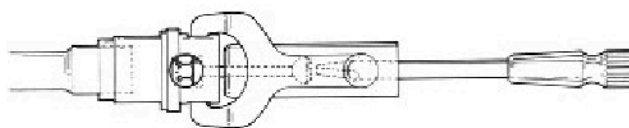

Figure 5
8. While holding the intermediate nut (item 12) with a 7mm open-end wrench, place the disc and retainer wrench (PN 1094-44) over the end of the retainer (item 16). While still holding the intermediate nut with the 7mm wrench, turn the disc and retainer wrench counterclockwise and remove the disc and retainer along with the spring (item 17). Remove and discard the disc (item 15).
9. Place a 5mm Allen wrench into the ribbed plug (item 14) and turn the wrench counterclockwise to remove the plug.
10. Remove the lever support and lever assembly (item 6) from inside the box bottom (item 2). Next, remove and discard the O-ring (item 13).
11. While holding the sheath (item 9) with your fingers, or gently holding it with small pliers, place a 7mm open-end wrench over the intermediate nut (item 12) and turn the 7mm wrench counterclockwise and remove the nut.
12. Insert the Arctic 5.5mm specialty nut driver (PN 1094-48) into the open end of the lever support (item 6). While holding the locknut (item 11) with the nut driver, insert the blade of a small flat blade screwdriver (PN 1016-84 Adjustment Tool screwdriver) into the sheath (item 9) and locate the slot on the connector rod (item 8). See figure 5. Next, turn the nut driver counterclockwise and remove the locknut. Discard the used locknut.
13. Slide the sheath and connector rod (items 8 & 9) out from the lever support (item 6).
14. Remove the washer and lever (items 10 & 7) from the lever support (item 6).
15. Slide the connector rod (item 8) out of the sheath (item 9).
16. Pull off the exhaust tee (item 5). Next, remove the exhalation valve (item 4) by pressing on the valve bead from inside the box bottom with your thumb.
17. Remove the plastic mouthpiece clamp (item 3) by snipping it carefully with wire cutters or pliers. Next, pull off the mouthpiece (item 1).